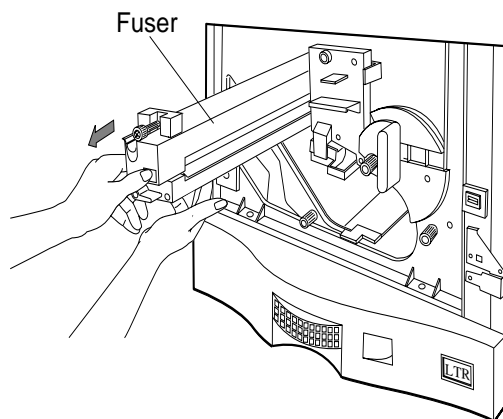

Figure 4-35 Pulling the Fuser out
3. Pull the fuser out, supporting it with your hand, as shown in Figure 4-35.